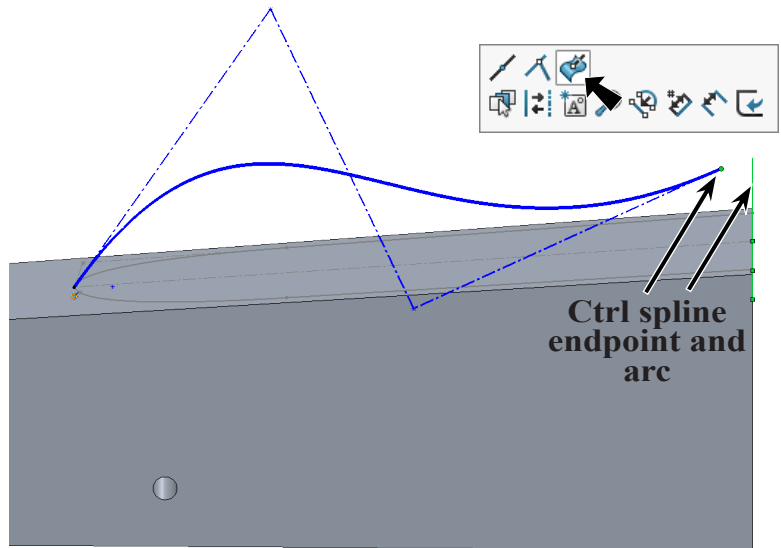

Fig. 51
Step 8. **Ctrl click right endpoint of spline and arc in rear profile sketch** to select both. Release Ctrl key and click **Make Pierce**  on the context toolbar, **Fig. 51**.